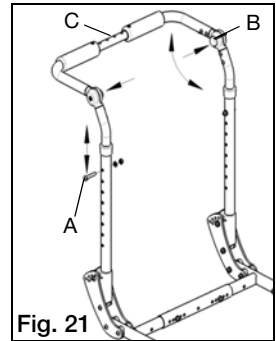
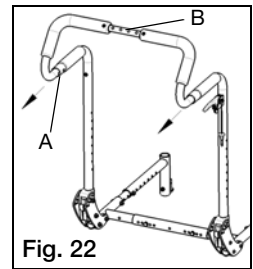

Fig. 21
Fig. 22
- If chair is equipped with a height adjustable backrest, remove both screws (Fig. 21:A) of the telescoping backrest tubes using a 4mm Allen wrench and a 10mm wrench.
- If chair is equipped with a height adjustable backrest, push buttons of locking hinges (Fig. 21:B). Both buttons must be pressed simultaneously to adjust angle.
- Depress buttons (Fig. 22:A) on both sides of chair toward lower end of stroller tubes to disengage locking tabs.
**DANGER:** Do not attempt to lift or tilt the wheelchair by holding the center strut that joins the Adjustment Height Back push handles (Fig. 21:C) or the center strut that joins Removable Stroller Handle push handles (Fig. 22:B). These struts may break resulting in a fall or loss of control and may cause serious injury or death.